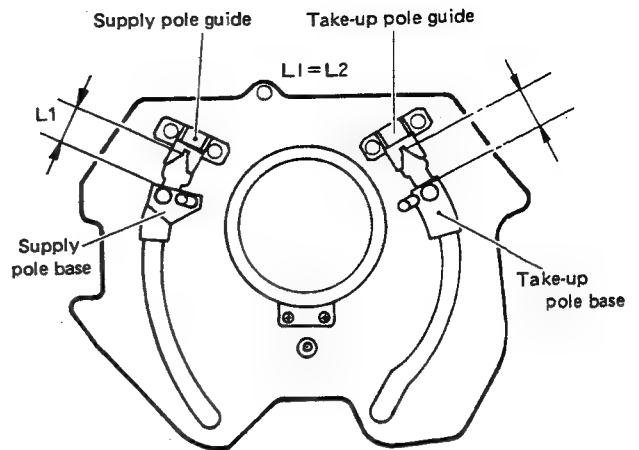

Fig. 2-16 Loading ring check
1. Take out the two screws (A) and remove the loading drive gear assembly.
4. Disengage the belt from the pulley, take out the two screws (B) and remove the motor from the loading gear assembly.
8. Turn the loading motor pulley by hand to move the loading ring slightly in the unloading direction. Check for equal spacing between the supply pole guide and supply pole base, and between the take-up pole guide and take-up pole base. See Fig. 2-16. If not equal, the loading gear ass'y mounting position is incorrect. Repeat the above step 7.